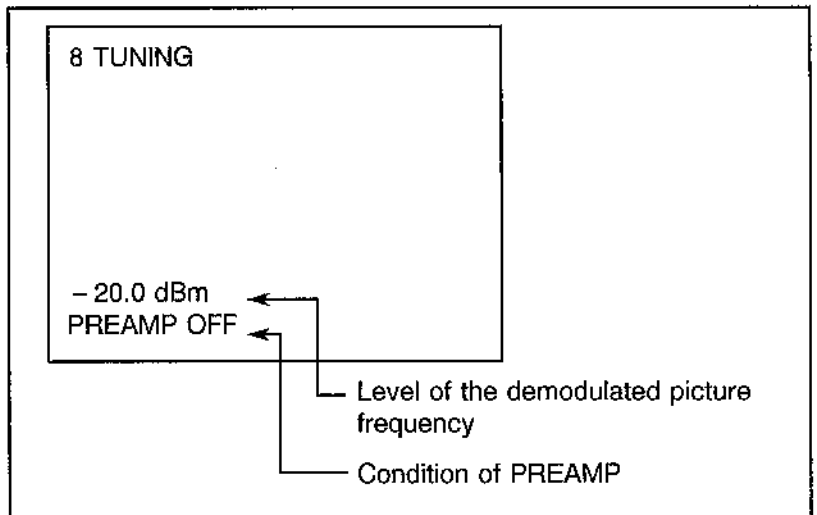

Figure 8-3 Tuning level display
- 1 TUNT LVL ON/OFF ... Displays the tuning level. The level of the demodulated picture frequency and the condition of the preamplifier (ON/OFF) are displayed on the OSD. (See Figure 8-3.)